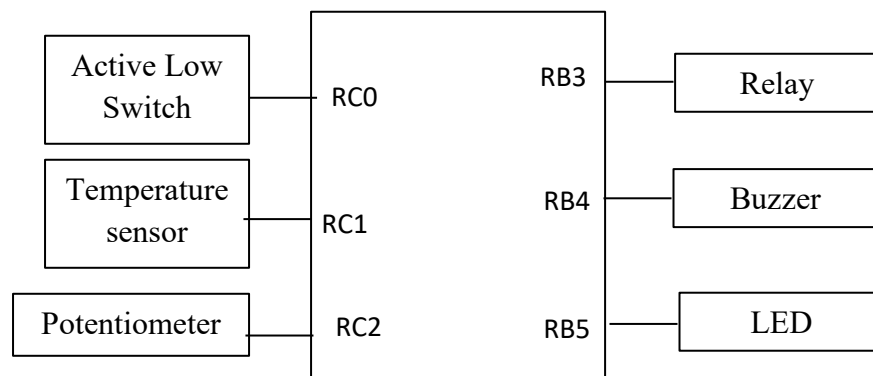

Figure A1/ Rajah A1
c) Figure A1 show the connection between input devices and output devices with PIC microcontroller. Write the C language to configure the input/output port using bit addressable and byte addressable.